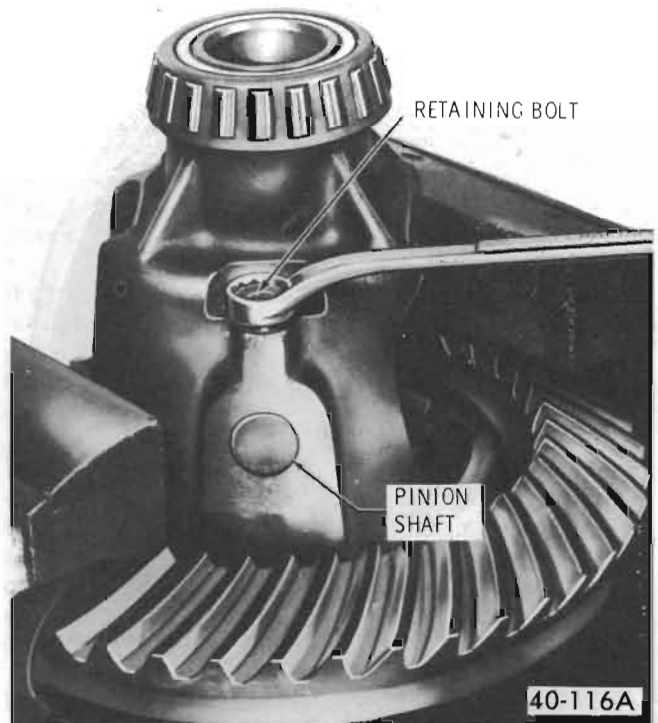

Figure 40-121 - Removing Pinion Shaft Lock Screw
2. Remove screw that retains differential pinion shaft. See Figure 40-121. Remove differential pinions, side gears and thrust washers from case.